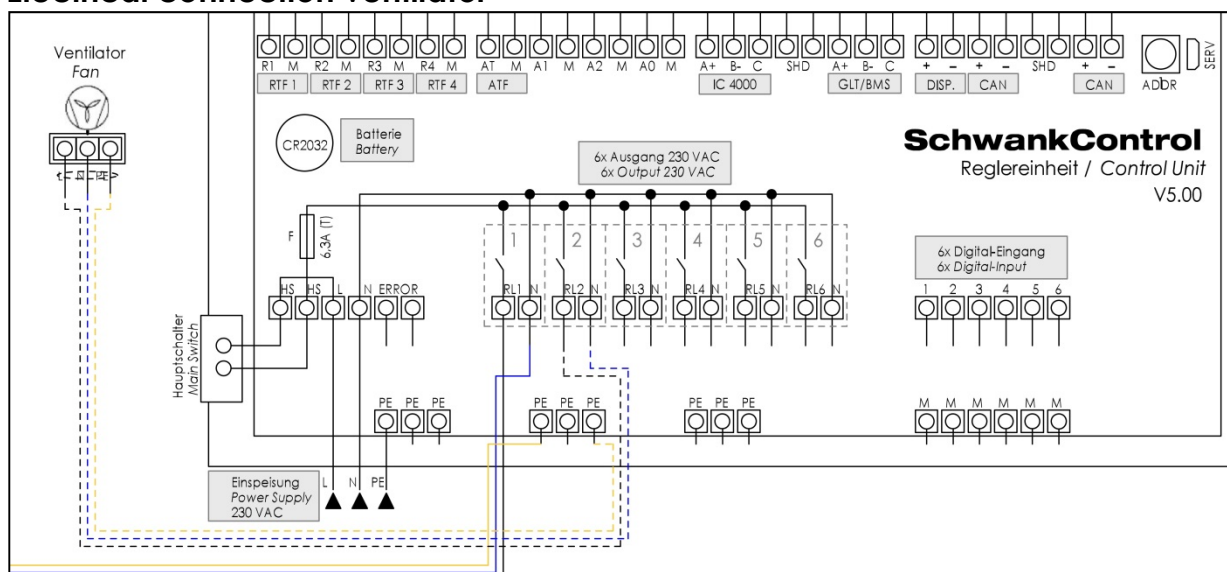

Fig. 41: Electrical connection tetraSchwank to SchwankControl Touch
- Connect the ventilator as shown in Fig. 41 to the central control unit Schwank Control Touch.